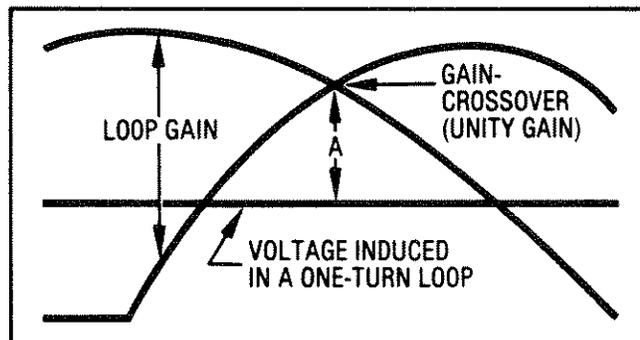

Figure 5-15. Spectrum Analyzer Display of Phase Locked Loop Gain
6. Press the single sweep key. Check that the gain-crossover frequency is 20 ± 2 kHz. If the gain-crossover frequency is not correct, A3A9A4R20 must be changed to set the correct frequency; otherwise, this adjustment is complete. See Figure 5-15.